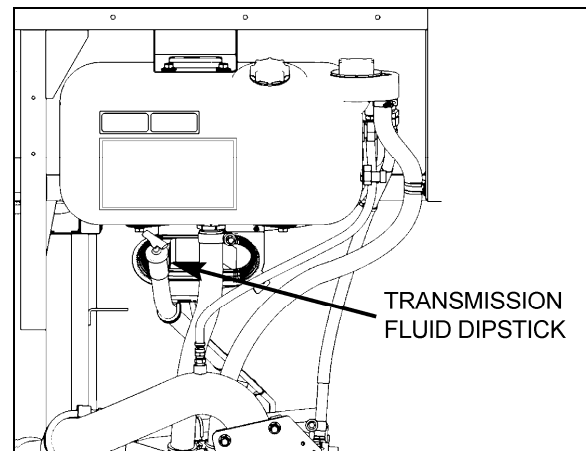

FIGURE 4: OIL LEVEL DIPSTICK (ALLISON) 01195
To gain access to the dipstick, open the engine compartment rear door; dipstick is located on the radiator side of the engine (Fig. 4).
5. Finally shift to Neutral (N) and allow the engine to idle (500 - 800 rpm).
6. While the engine is running, remove the dipstick from the tube and wipe it clean (Fig. 4). Insert the dipstick into the fill tube, pushing down until it stops.